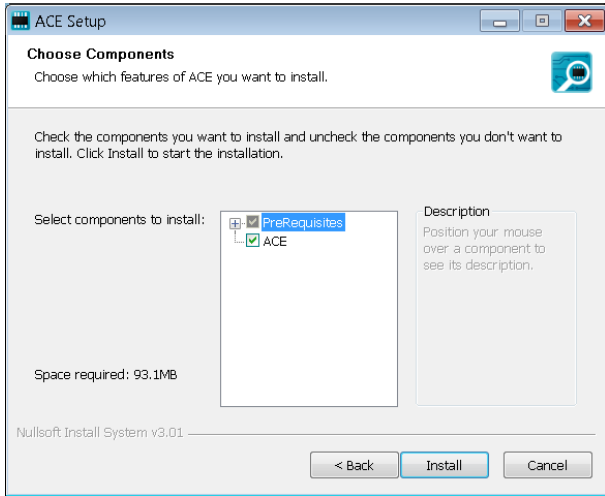

Figure 6. Choose Components
- The components to install are preselected (see Figure 6). Click **Install**.